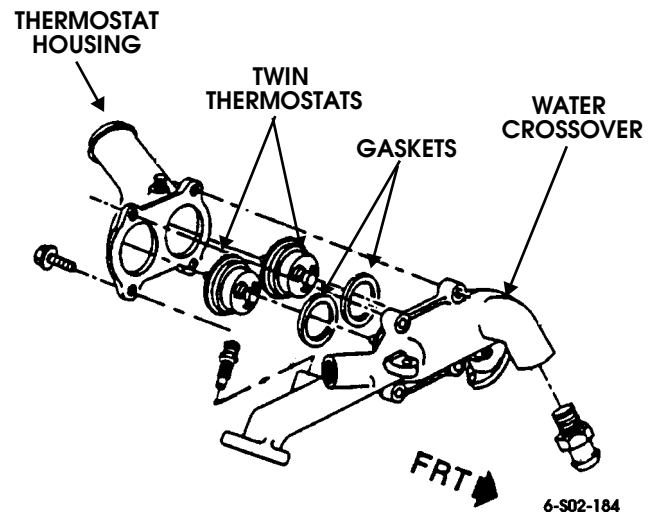

Figure 4-23: Thermostat and Cover Removal and Installation (Turbo Diesel)
3. Remove thermostat cover and gasket (Figure 4-23).